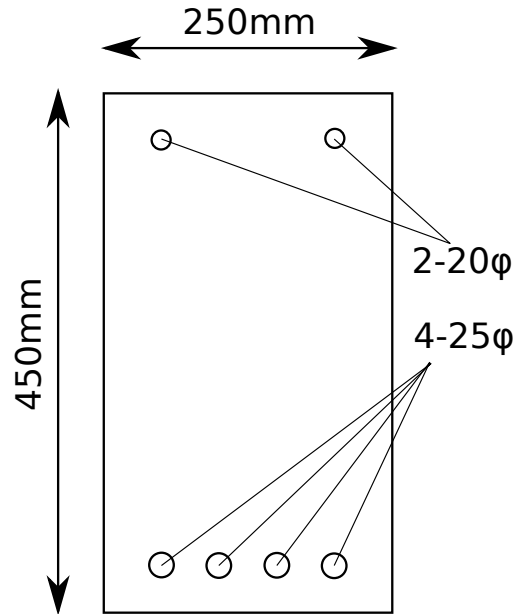

Figure 2:
15. Calculate τ_v according to Figure 2 from code.
The beam as shown in Figure 2 has an effective span of 8m. Find the strain in compression and tension steel. Determine the moment of resistance and maximum UDL that can be carried by the beam. Assume Fe415 steel, M20 concrete and 25mm clear cover. Refer to data given in Table 1 and 2.